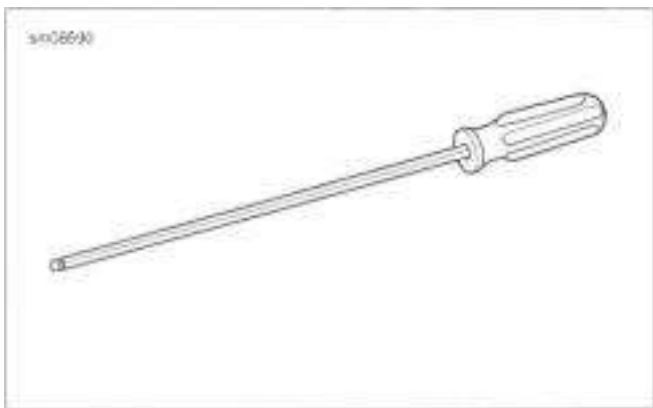

Figure 6-35. Intake Manifold Wrench
- a. Remove TMAP sensor connector (10).
- b. Remove front fuel injector connector (8).
- c. Remove rear fuel injector connector (5).
- d. Remove TCA connector (11).
- e. Release harness from anchor point (12).
**See Figure 6-35. For best results, use the INTAKE MANIFOLD WRENCH (PART NUMBER: HD-47250).**